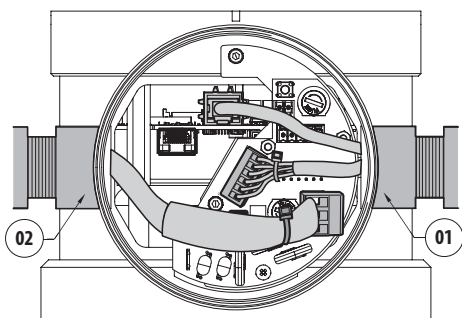

Fig. 17
For installations according to UL/CSA standards, the cables for Ethernet, reset, alarms, relays and fibre optics should be inserted in the right cables entry (01) as indicated in the following figure (Fig. 17, page 23).
For installations according to UL/CSA standards, pass the power supply cable through the cables input on the left (02), as indicated in the figure (Fig. 17, page 23).